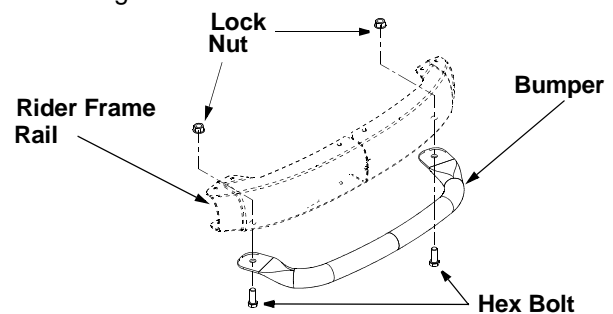

Figure 6
- Loosen and remove the two hex bolts and lock nuts from the front rail on the rider mower. See Figure 6 .
- Align the two holes on the bumper tube with the corresponding holes on the rider frame (from where you removed the hardware). See Figure 6 .
- Re-insert the two hex bolts through the bumper and the rider frame and secure with the two lock nuts. See Figure 6 .